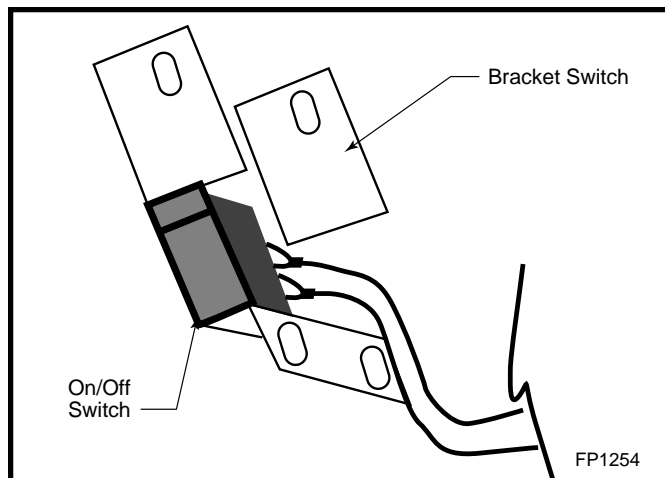

Fig. 6 For left side installation, reverse switch position in bracket.
3. For left side installation reverse switch position in bracket and repeat Step 2. (Fig. 6)